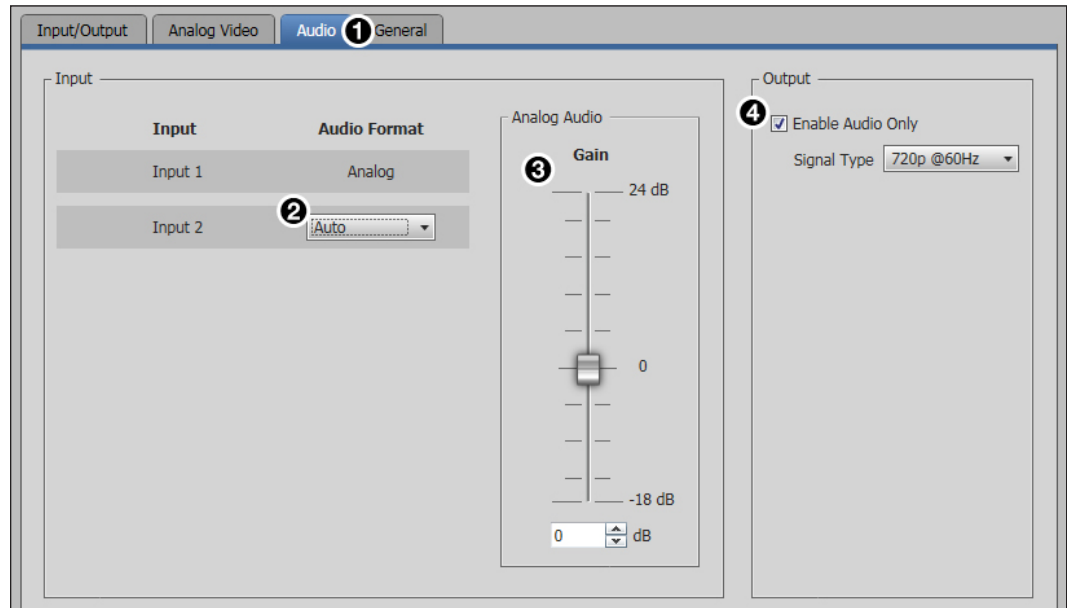

Figure 33. Audio Tab
Click the **Audio** tab (see figure 33, ①) to open the Audio screen. It contains settings for input format and analog audio gain.